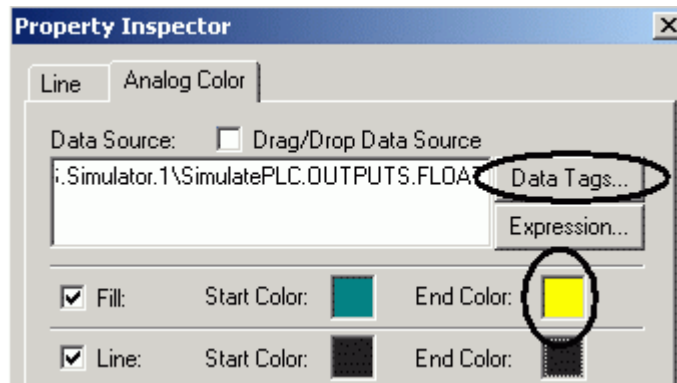

Figure 5.27. Analog Color Dynamic Property Inspector
- The **Property Inspector** for the **Analog Color** dynamic will appear, as shown in **Figure 5.27**. Click the **Data Tags** button and navigate to the OPC tag "Smar.Simulator.1\SimulatePLC.OUTPUTS.FLOAT." This is a tag that has already been created. It is important to link to this specific tag, since the various controls configured in this display to change the light bulb are already tied to this particular OPC tag.